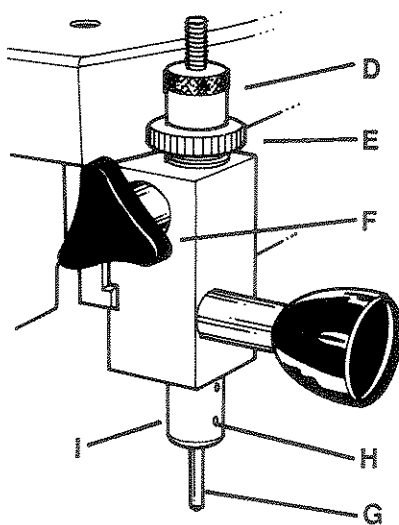

Figure 3
The depth guide is spring-loaded, which permits you to pre-position the tip of the depth guide into a cut before lowering the cutter head to actually make the cut. The top locking ring nut (D) controls the spring loading feature, while the bottom adjusting ring nut (E) controls the depth position of the depth guide. Once the proper adjustment is determined, the vertical locking knob (F) secures the adjustment (see Figure 3).